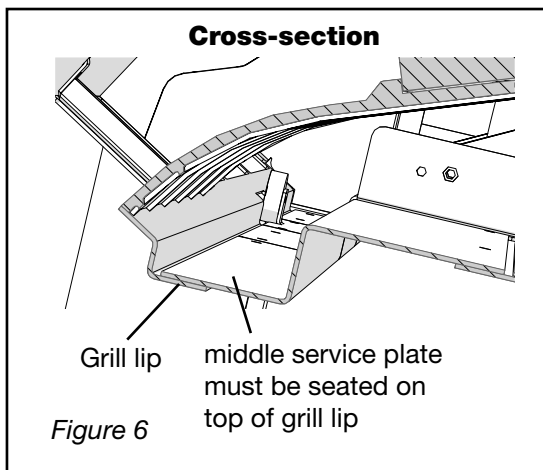

Figure 6
- b) the front of the service panel is tucked inside, sitting on top of the grill lip.(Figure 6)